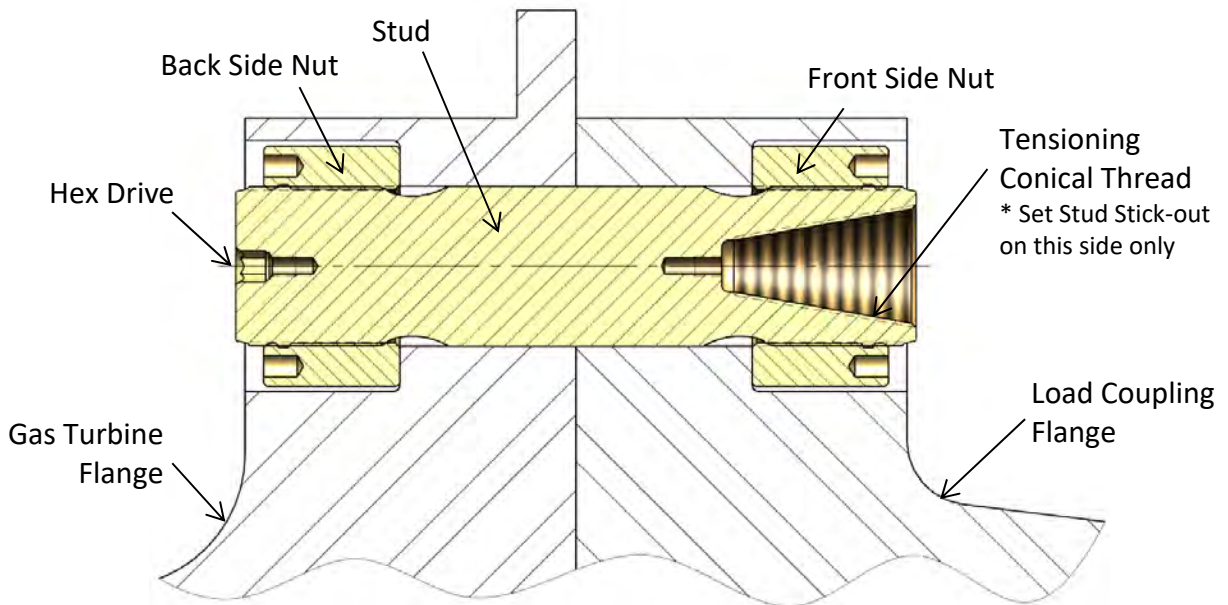

Figure 6A – Cross-section View of Gas Turbine to Load Coupling Bolted Flange Connection
4. Slide the stud and nut into the flange as shown in Figures 6A thru 6F.